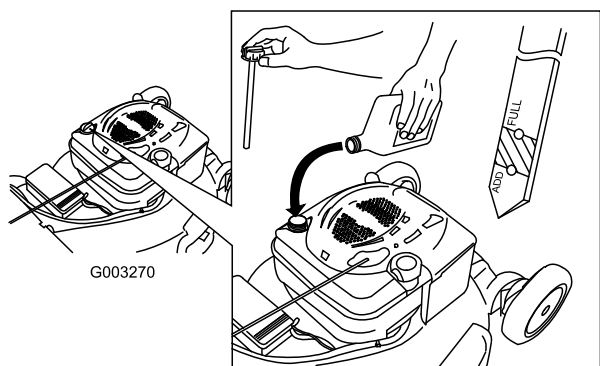

Figure 7
1. Remove the dipstick (Figure 7).
2. **Slowly** pour oil into the oil fill tube until the oil level reaches the Full line on the dipstick (Figure 7). **Do not overfill.** (Max. fill: 20 oz. (0.59 l), type: SAE 30 detergent oil with an API service classification of SF, SG, SH, SJ, SL, or higher.)